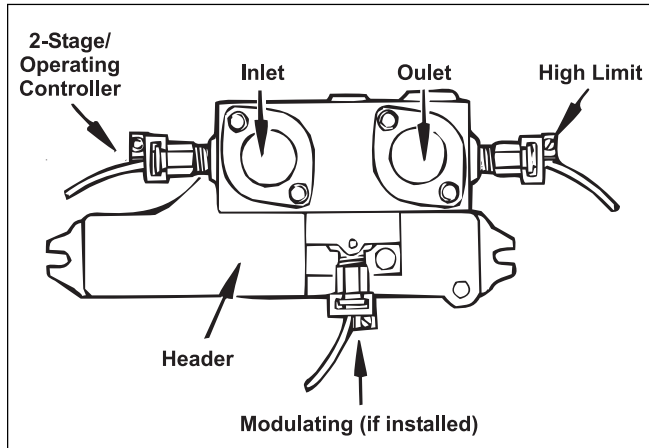

Figure 17. Sensory bulb locations.
12. A temperature control sensing bulb is located in the front of the header on the inlet side and a manual reset hi-limit sensing bulb is located on the back side of the header on the outlet side (see Figure 17). Remove these sensing bulbs from the header. The following steps for removal apply to all sensing bulbs: